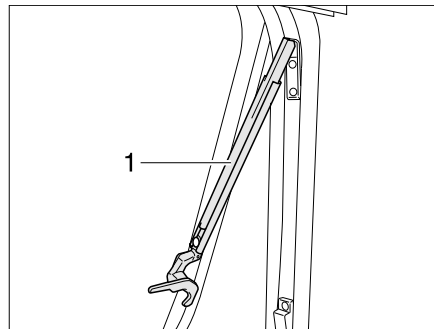

Fig. 77 Hinged window with automatic hinges, open
- Open the hinged window to the desired latched position. The automatic hinge (Fig. 77,1) locks in place automatically.